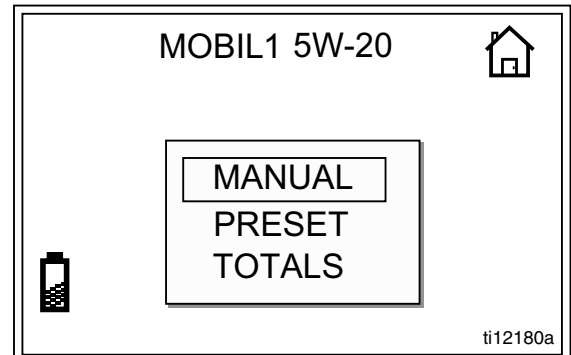

FIG. 20
1. From HOME screen, use the UP or DOWN ARROWS to select MANUAL (FIG. 20).